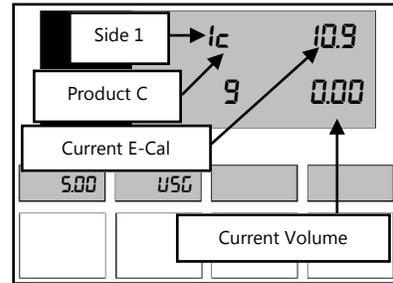

Figure 27.4 – E-Cal Reset
4. Once the product is selected, the main volume display will reset. The main money display will show the current electronic calibration correction constant for the selected meter. The volume display will show the current sale volume as shown in *Figure 27.4*.